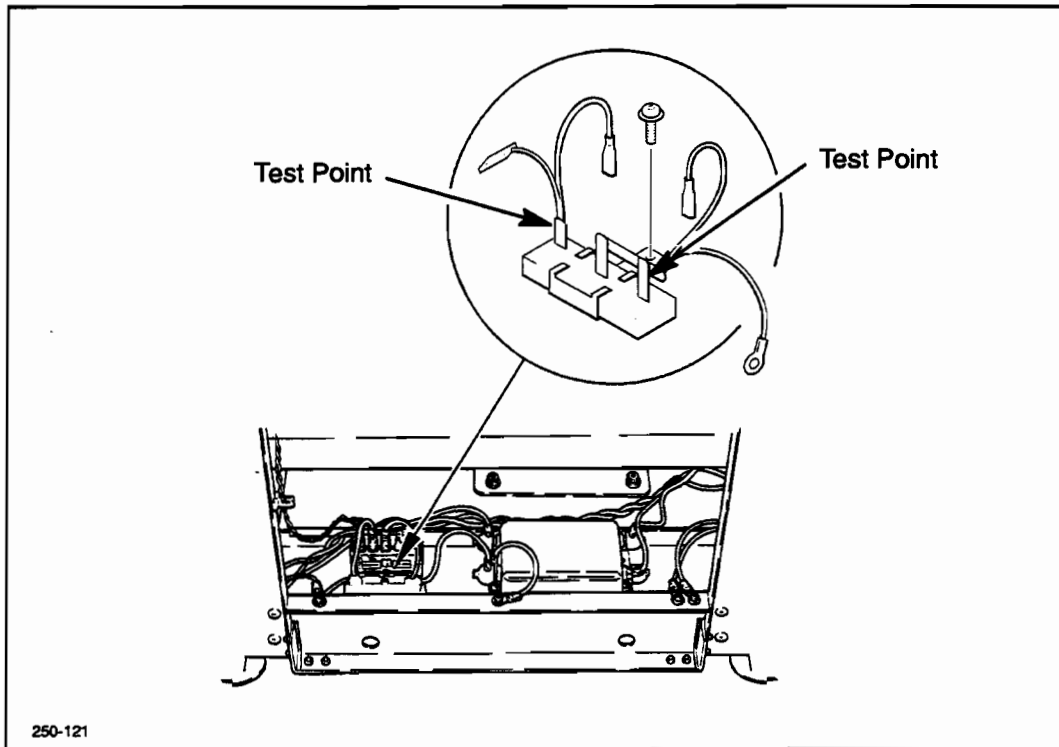

Figure 8-20. In-Rush Resistor Test Points (Models 240D/E and 250/255)
- c. Using the ohmmeter, measure between the test points shown in Figure 8-20. There should be a reading of approximately 10 ohms. If there is an infinite resistance, R1 is defective (open) and must be replaced. Refer to chapter 6 the removal and replacement procedure.